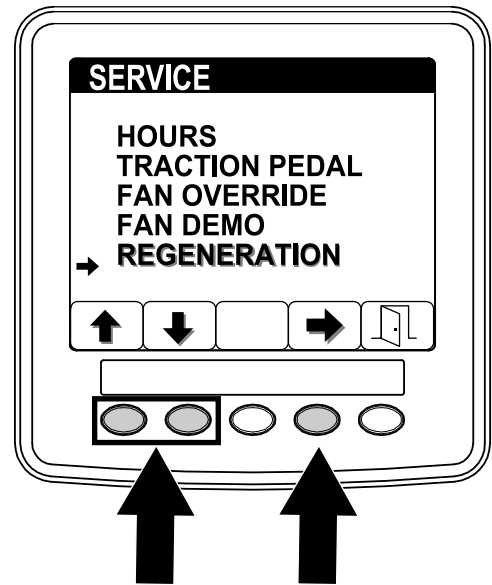

Figure 6
- On the SERVICE menu, press button 1 or button 2 to navigate to the REGENERATION option, and press button 4 to select the REGENERATION entry (Figure 6).